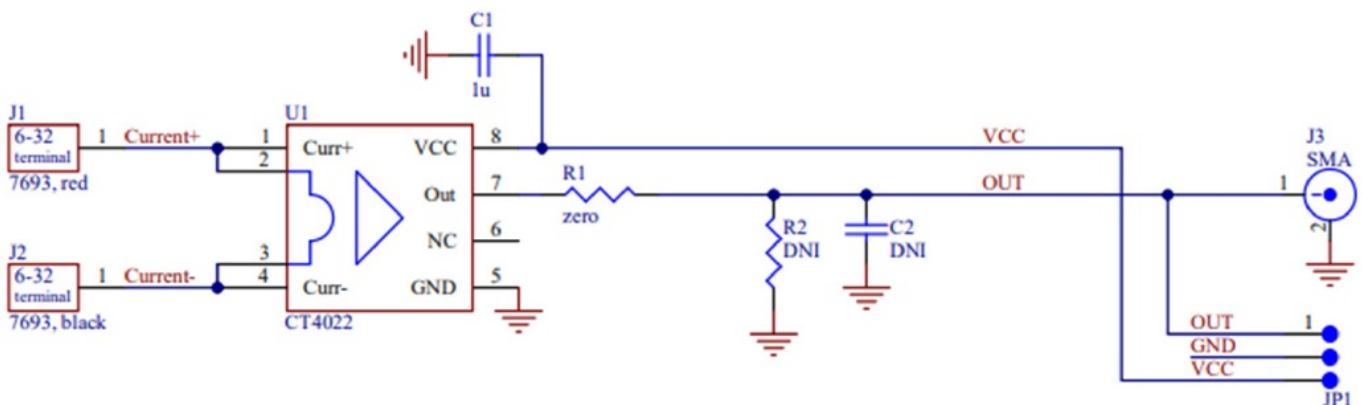

Figure 3: CT4022 Evaluation Board Schematic
- The schematic of the CT4022 evaluation board is shown in Figure 3.